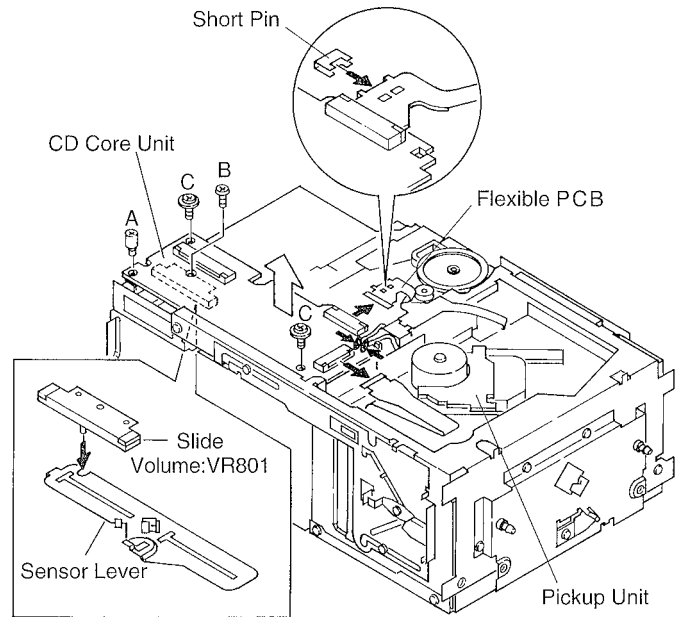

Fig.8
● **Removing the Pickup Unit(Fig.8)**
- 1.Attach the Short Pin onto the Flexible PCB of the Pickup Unit.(Fig.8)
- 2.Remove the Flexible PCB from the connector.(Fig.8)